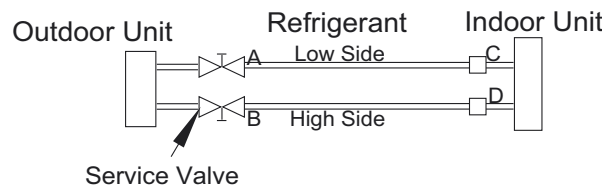

Fig. 18 Service Valve
- Completely tighten flare nuts A, B, C, D, connect manifold gage charge hose to a charge port of the low side service valve (see Fig. 18).